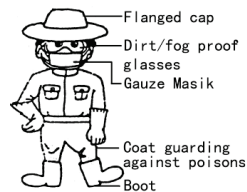

Fig.13
2. Protective clothing (Fig 13)
- (1) Mental patients.
- (2) Drunk. Fig.13
- (3) Under age or old person.
- (4) Person with no knowledge of the machine.
- (5) Dog-tired person or patient and others who can not operate the machine normally.
- (6) Person who have just exercised strenuously or slept not enough.
- (7) Women giving the breast to baby or being pregnant.